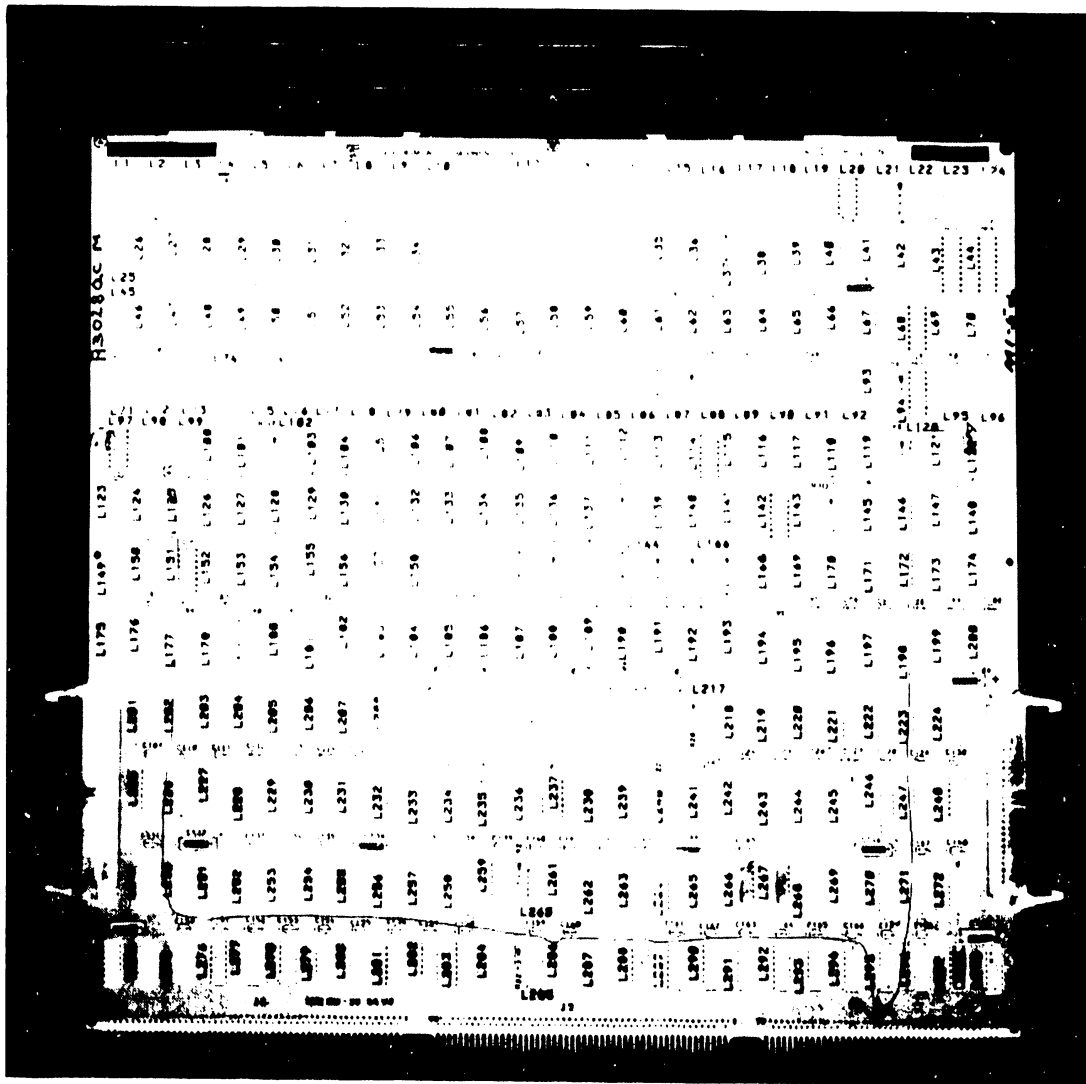

Figure 5-6A. 210-7600 VS-85 A Bus Board
1. Remove the A Bus board (figures 5-6A and 5-6B) from Motherboard slot #2 in the manner described in 5.3.6.3.1. (There are no cables connected to the A Bus.)